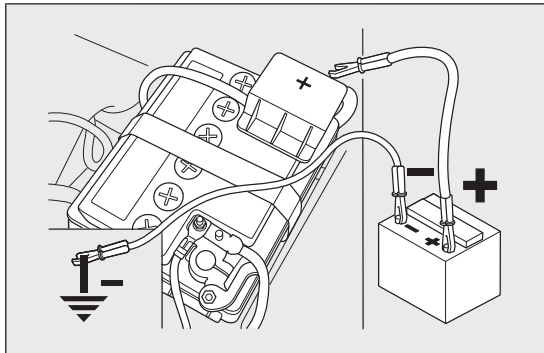

fig. 122
- connect the positive terminals (sign + near the terminal) of the two batteries with a jump lead fig. 122